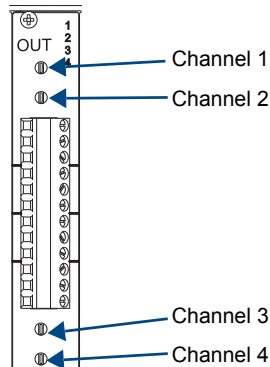

FIG. 69 Output gain adjustment pots
2. Adjust the output volume for the destination to the desired dB level by turning the corresponding potentiometer (FIG. 69) clockwise to decrease volume, counterclockwise to increase volume.